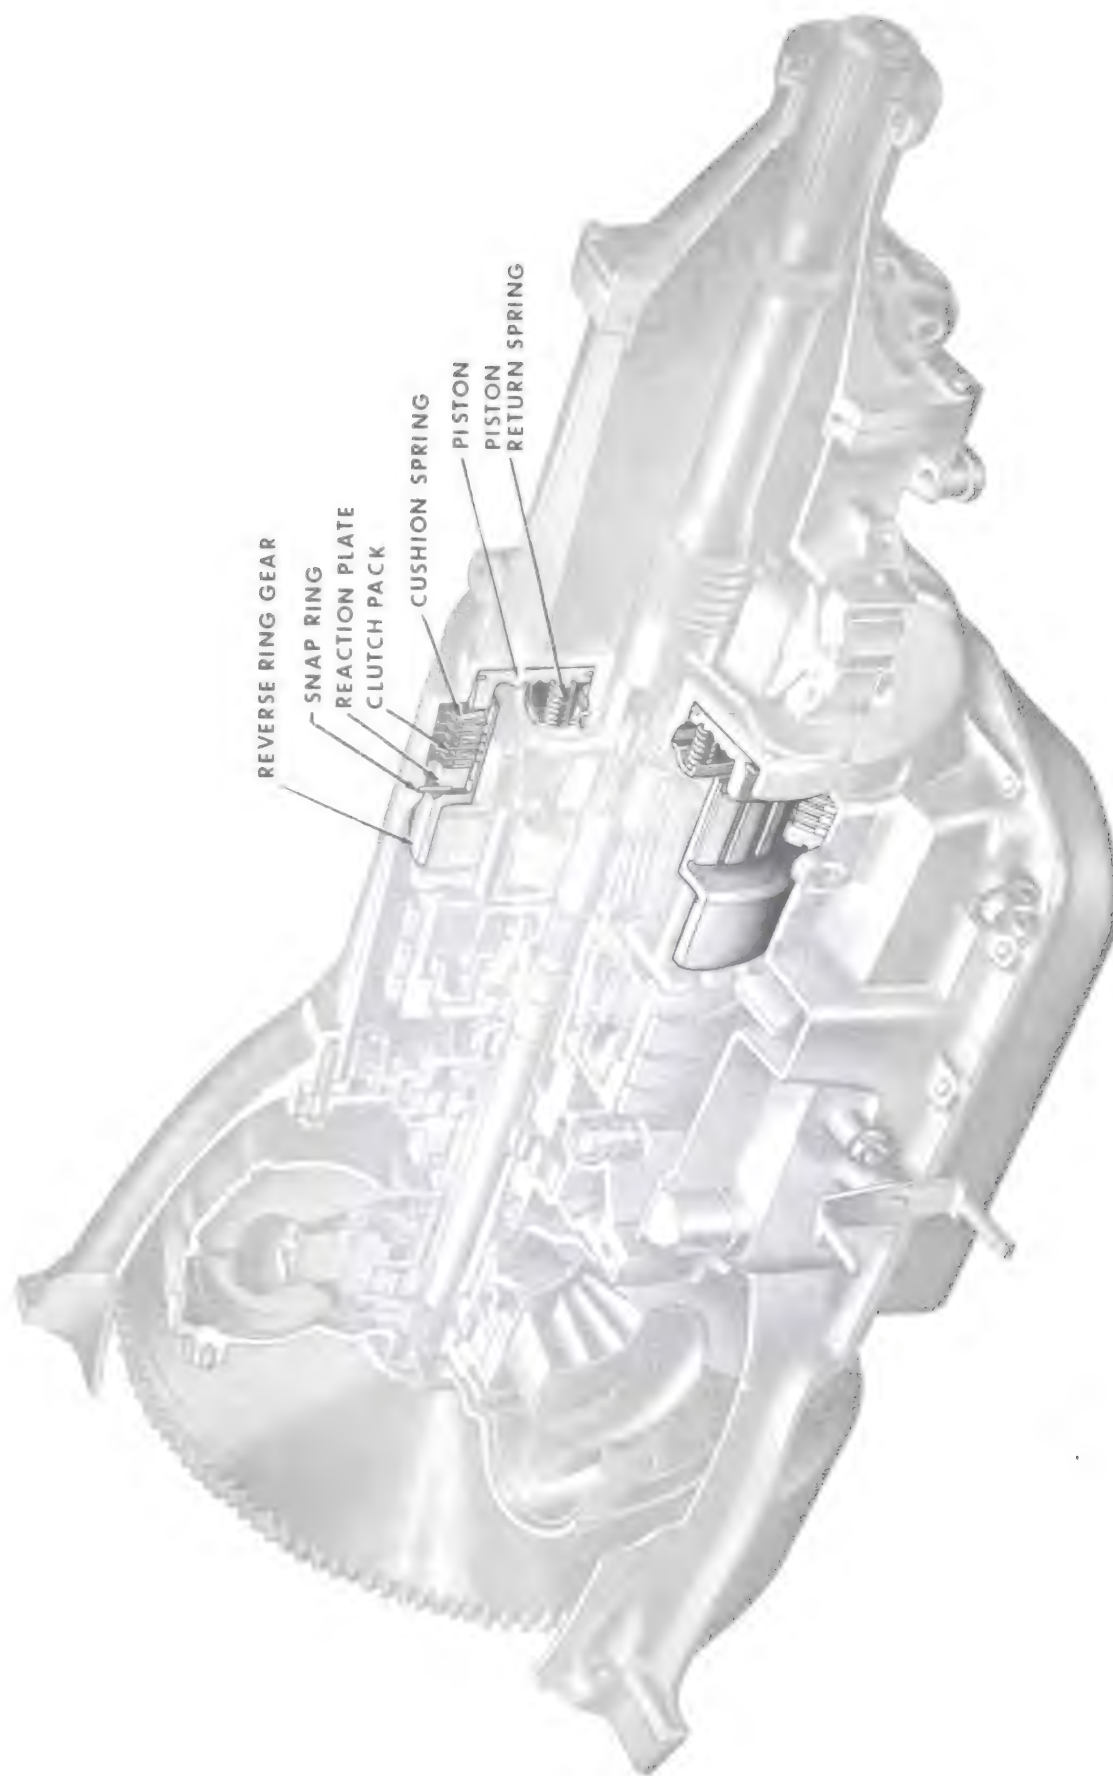

Figure 5-6—Reverse Clutch
The planetary gear set consists of an input sun gear, low sun gear, short and long pinions, a reverse ring gear and a planet carrier. The input sun gear is splined to the input shaft. The low sun gear, which is part of the forward clutch assembly, may revolve freely until the low band is applied. The input sun gear is in mesh with three (3) long pinions and the long pinions are in mesh with three (3) short pinions. The short pinions are in mesh with the low sun gear and reverse ring gear. The input sun gear and short pinions always rotate in the same direction. Application of either the low band or the reverse clutch determines whether the output shaft rotates forward or backward. See Figure 5-6.